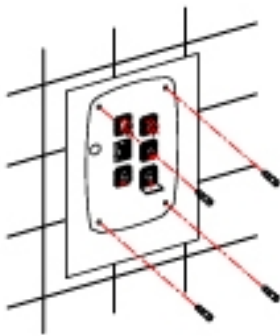

Figure 4.
- Make four drill holes with an 8 mm (0,31") diameter in the wall, using the provided template (Figure 4).